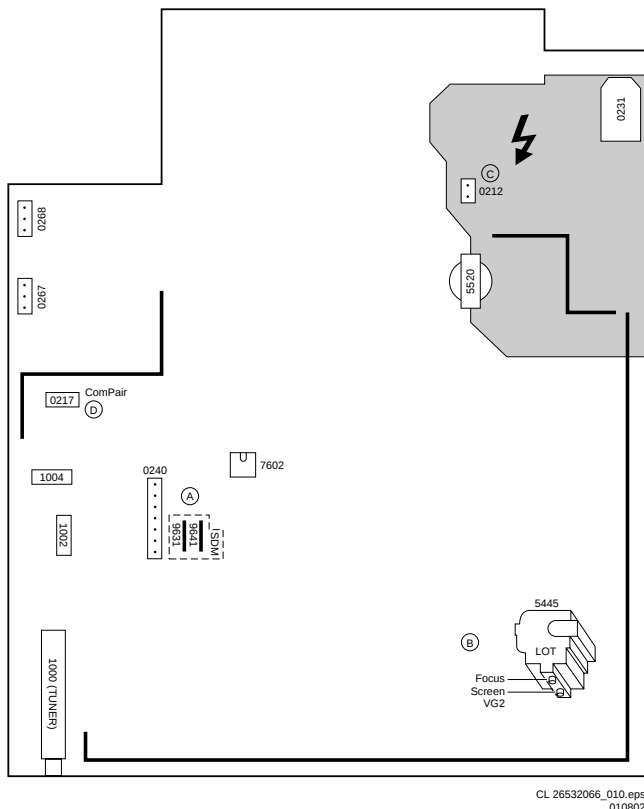

Figure 8-1 Top view monocarrier
12. Select the cathode with the highest Vdc value for the alignment. Adjust the Vcutoff of this gun with the SCREEN potentiometer (see figure 8-1) on the LOT, to the correct value (see table below).
- Adjust the FOCUS potentiometer (see Fig. 8-1) until the vertical lines at 2/3 from east and west, at the height of the centreline, are of minimum width without visible haze.